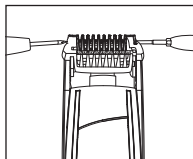

Fig. 5
1. Using two screws in each side of the comb guide pin, screw in opposite force, until one side of the screw comes loose (Fig.5).